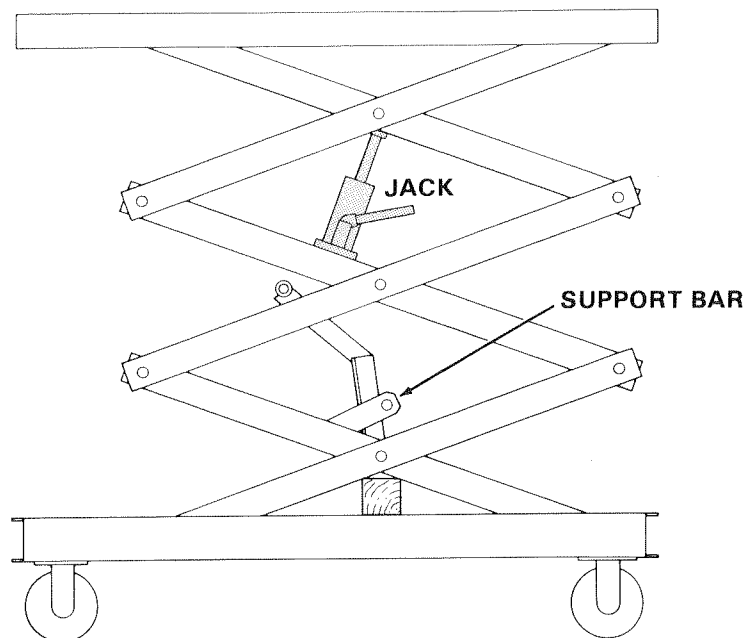

Figure 34. Installing Jack.
- c. Insert jack between second and third inner beam from bottom of unit, Figure 34.
- d. Actuate lift switch until lift arm makes firm contact with support bar, Figure 34.